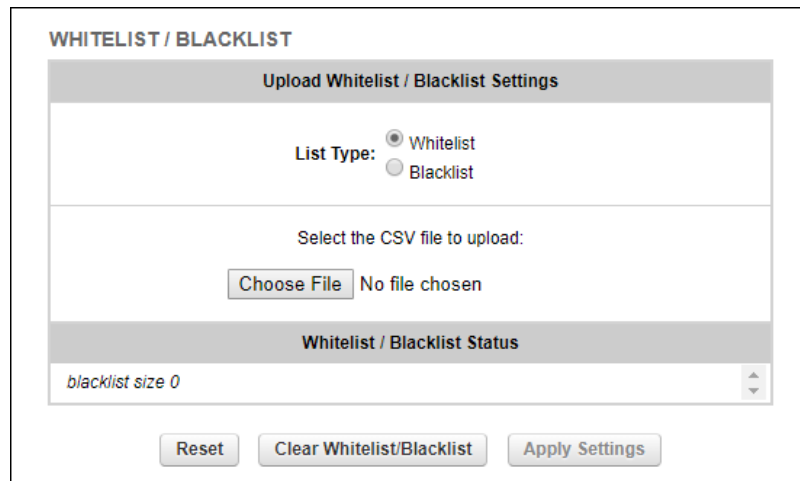

Figure 38. Configurator (Pass list / Block list dialog)
- The **Pass list / Block list** dialog will be shown (Figure 38 \(page 111\)).